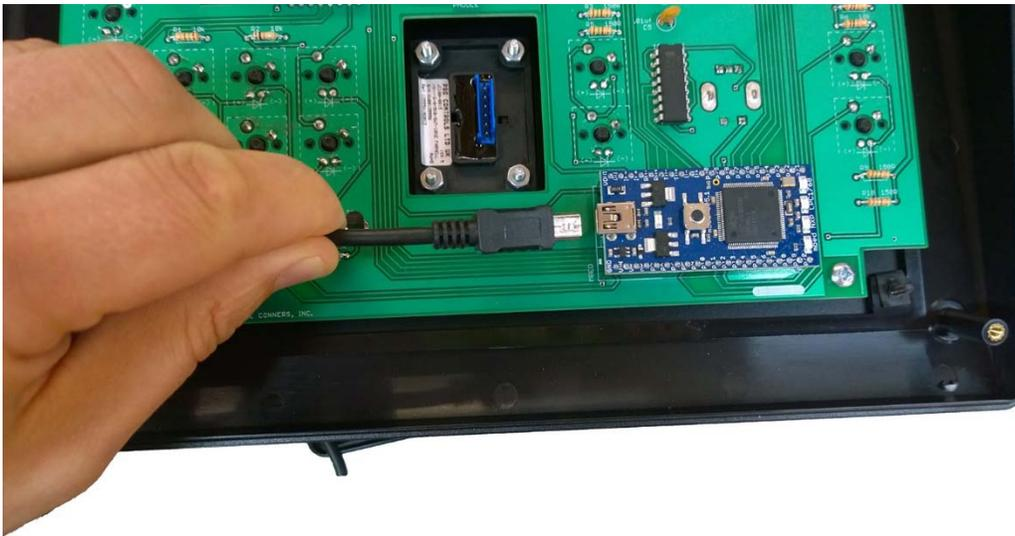

Figure 52
4. Locate the microprocessor module and insert the included mini-USB cable (Figure 52).